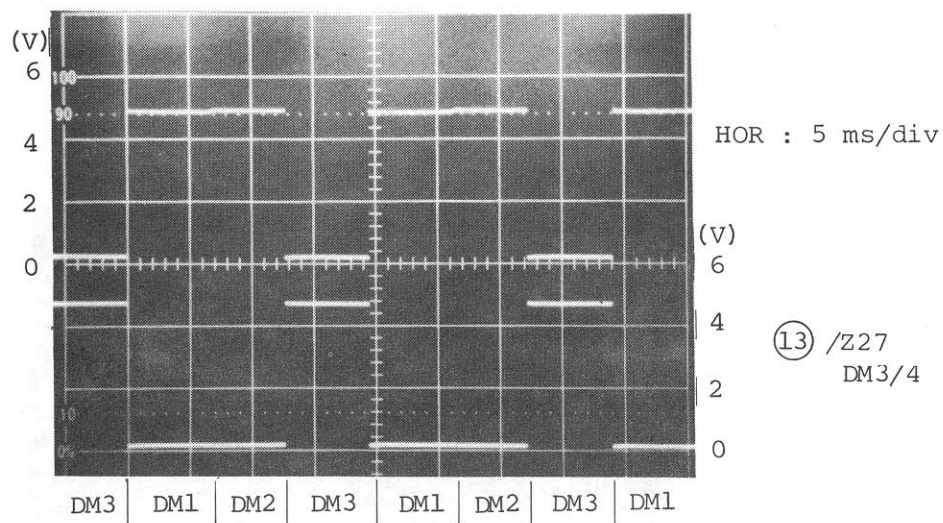

Fig. 5-78 Display Mode Status Signal
7.	Check that the Display Mode Status signals DM1/2/6 ⑫ and DM3/4 ⑬ are as shown in Fig. 5-78.